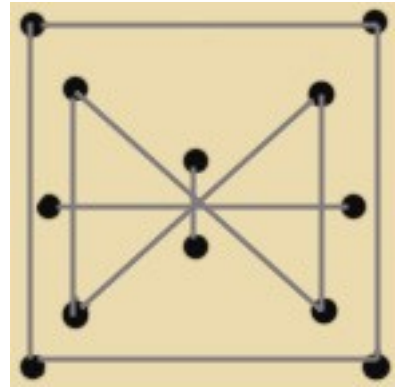

Figure 6
- 8) Join the stitched front plate to the back plate. Anchor your wire between the two pieces, then stitch the edges together (fig 6). Secure the tail of wire between the two layers when finished.